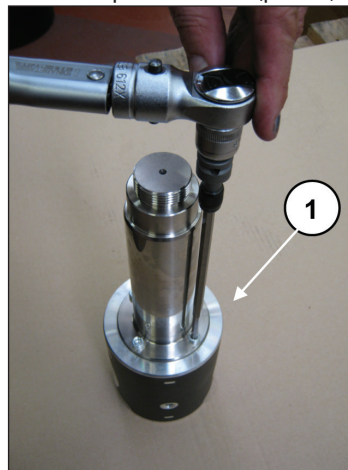

Fig. 47
To separate the rod from the piston guide, unscrew the round head M6 screws with a special wrench (pos. ①, Fig. 47).